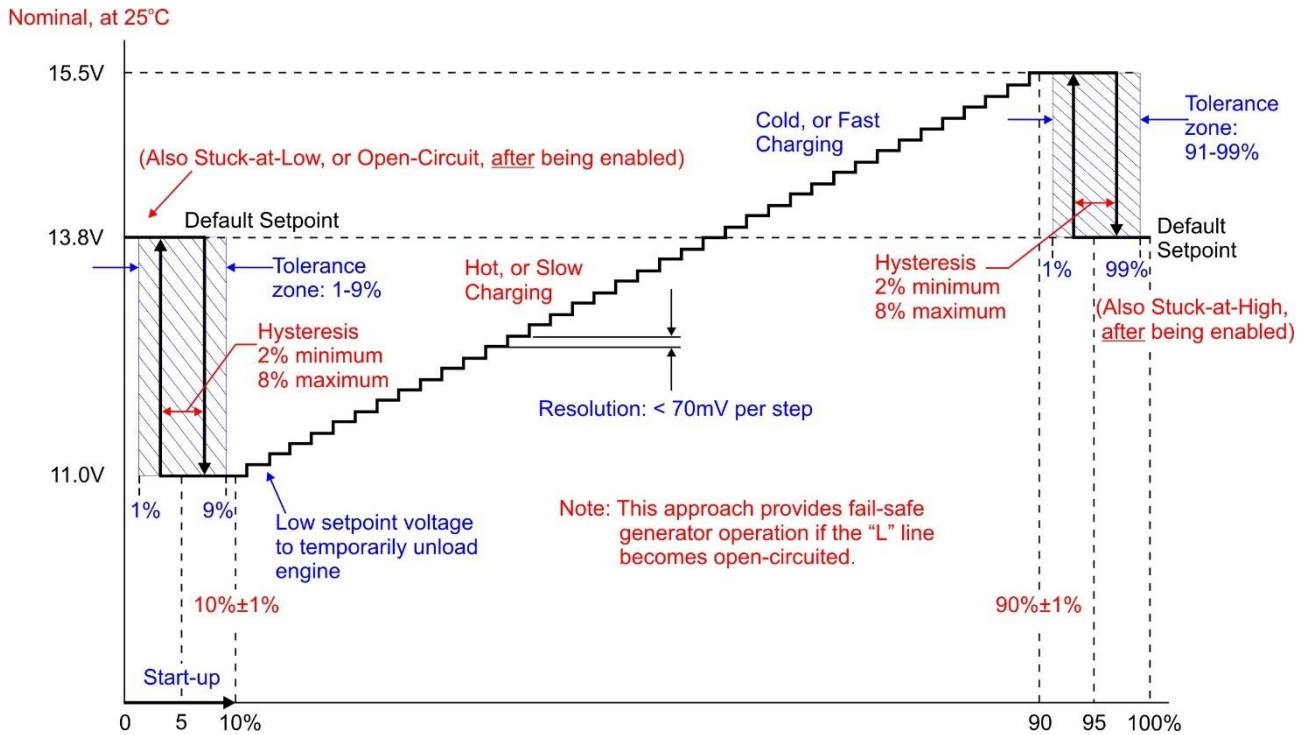

Fig. 4. Set-point voltage for RVC.
6. Regulation mode corresponds with Figure 4;
3. Setpoint voltage in normal regulation mode is adjusted proportional to L-duty in accordance with Figure 4.